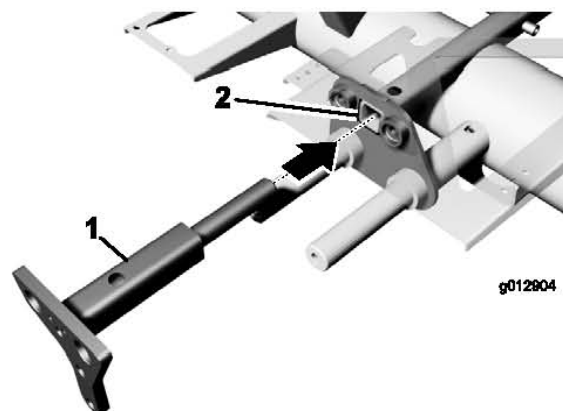

Figure 4
6. Insert the new frame stub into the frame tube, positioning as shown in Figure 4.